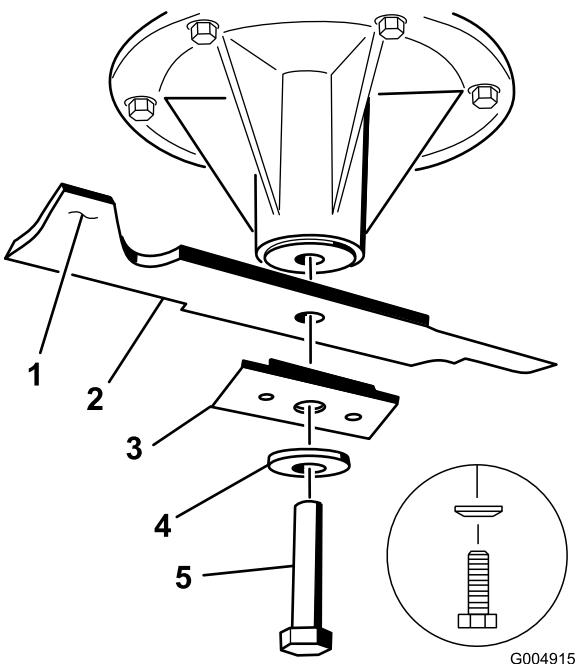

Figure 59
3. For 36 and 52 inch mower decks, remove the blade bolt, curved washer, blade stiffener, and blade from the spindle shaft (Figure 59).
3. For 36 inch and 52 inch mower decks, install the blade, stiffener, curved washer, and blade bolt (Figure 59).